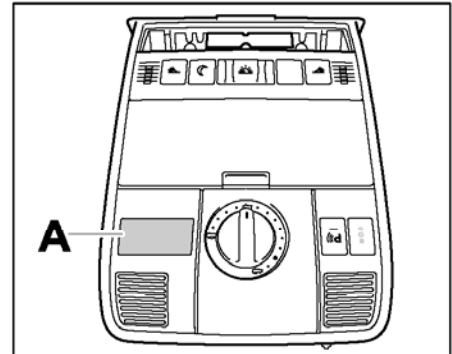

Figure 13
- 4.1 Unclip cover ⇒ *Figure 13-A-* from headliner.